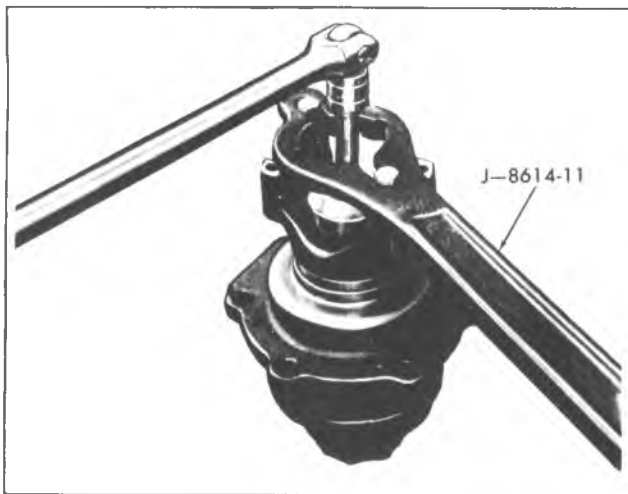

Fig. 8E--Removing Pinion Nut
2. Install Holder J-8614-11 on flange by using two bolts with flat washers, as shown in figure 8E. Position J-8614-11 on flange so that the four notches are toward the flange.
9. Clamp the pinion flange into a vise. Install J-8614-11 as in figure 8E. Tighten the nut to achieve proper preload.